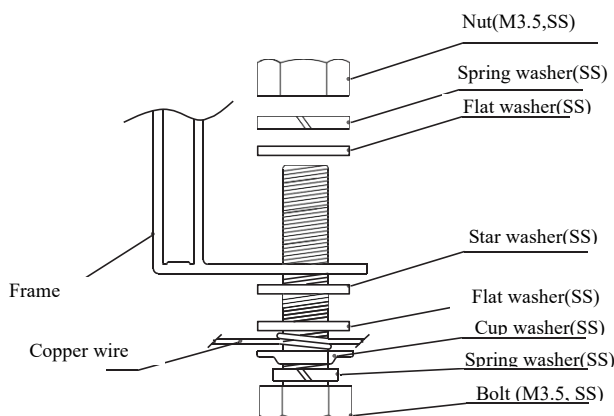

Figure 7
- The grounding bolts must be made of stainless steel and be used in the specified grounding holes. First, make the M3.5 stainless steel bolt pass through the spring washer, flat washer, cup washer (copper conductor with a diameter of 2.1 mm) and star washer, and then insert through the grounding hole, flat washer and spring washer on the frame. Finally, tighten with a M3.5 nut. Caution: The upper limited temperature of the conductor is 85°C. As for the installation, refer to Figure 7.